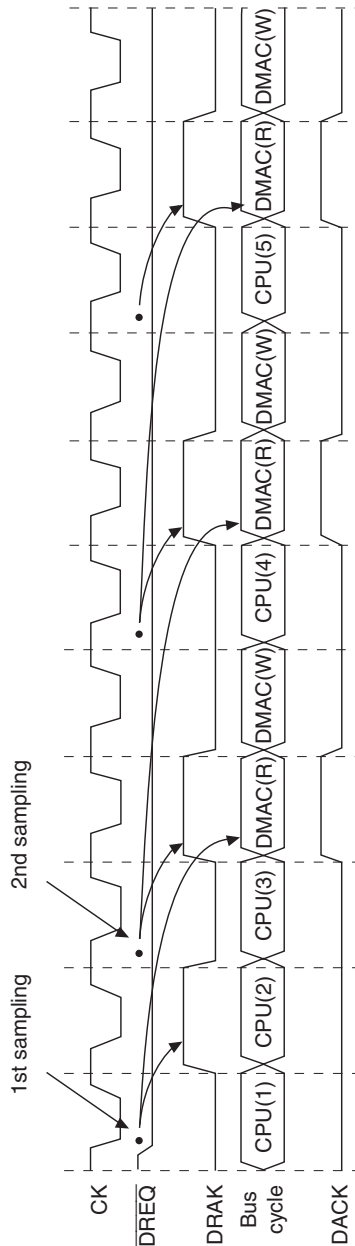

Figure 9.9 Cycle Steal, Dual Address and Level Detection (Fastest Operation)
For example, DMAC transfer begins (figure 9.9), at the earliest, three cycles from the first sampling timing. The second sampling begins at the start of the transfer one bus cycle prior to the start of the DMAC transfer initiated by the first sampling (i.e., from the start of the CPU(3) transfer). At this point, if $\overline{\text{DREQ}}$ detection has not occurred, sampling is executed every cycle thereafter.
Figure 9.9 shows an example of output during DACK read and figure 9.10 an example of output during DACK write.